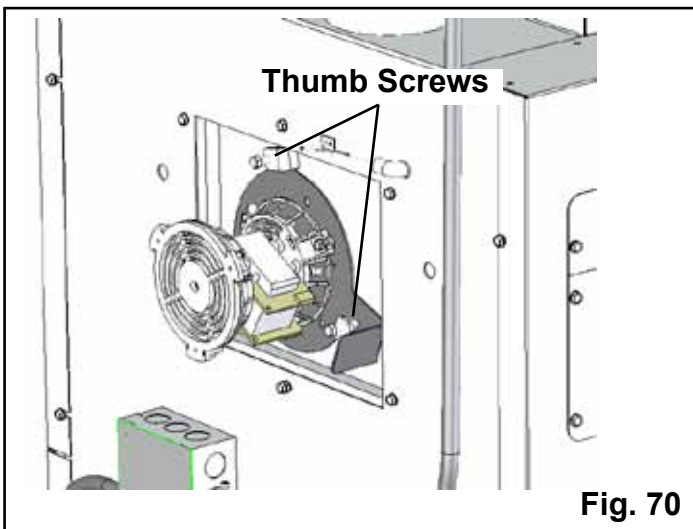

Fig. 70
Loosen the three (3) thumb screws about 4 turns each. See Fig. 70. Hold the motor head with one hand and the blower plate handle with the other hand. Pull outward on the plate handle until the complete unit comes loose. Now rotate the plate counter-clockwise about 1/8 turn. This will allow the complete assembly to be removed from the blower chamber.